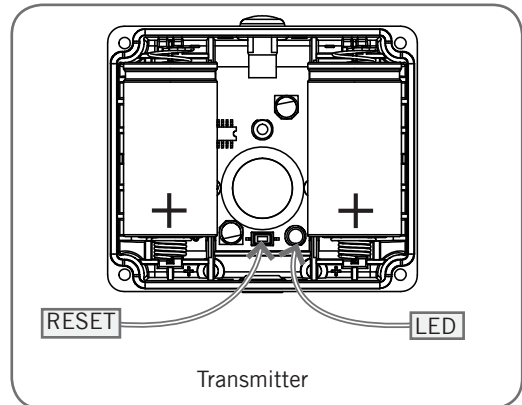

Fig. 44
- Insert two C-type batteries in the transmitter (**Fig. 44**).